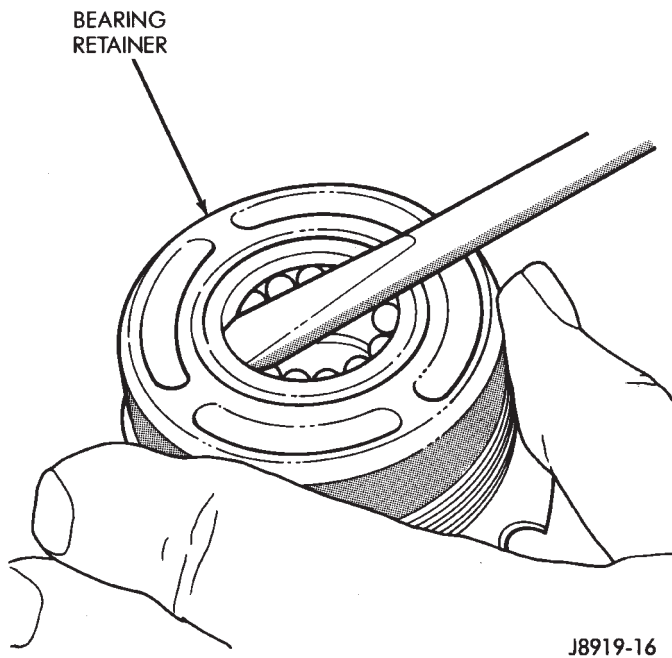

Fig. 6 Wormshaft Lower Bearing Retainer Removal
(1) Pry out and remove the wormshaft lower bearing retainer from the adjustment cap (Fig. 6).